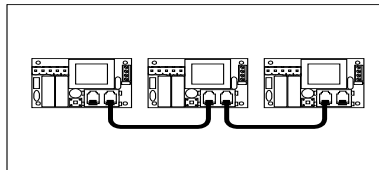

Figure 3
3.1 CS-Bus Wiring Directions (Controller to Controller wiring). (See Figure 3 below.)
- c. If your User Control Device has two RJ-25 connectors, then you can simply obey the same wiring topology shown under **Figure 3** above treating the targeted User Control Device as any other Controller. In this case you plug the communication wire from either one of the available RJ-25 jacks on the User Control Device into **Output Port 0 on an available CS-Bus device**. Plug a second communication wire from the other RJ-25 connector on the User Control Device into **Input Port 1** on the “next” CS-Bus Controller.